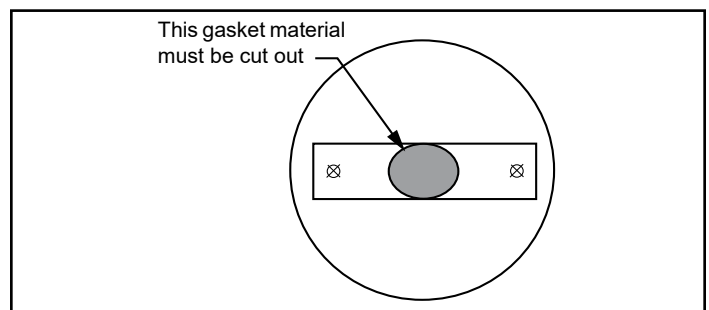

Figure 2 - Gasket material to be cut out.
3. To expose the access plate in the rear panel of the air-intake box, remove the knock-out with a screw driver or other suitable tool, Figure 2. It is not necessary to remove this access plate; however, you must cut out the gasket material from the center hole.